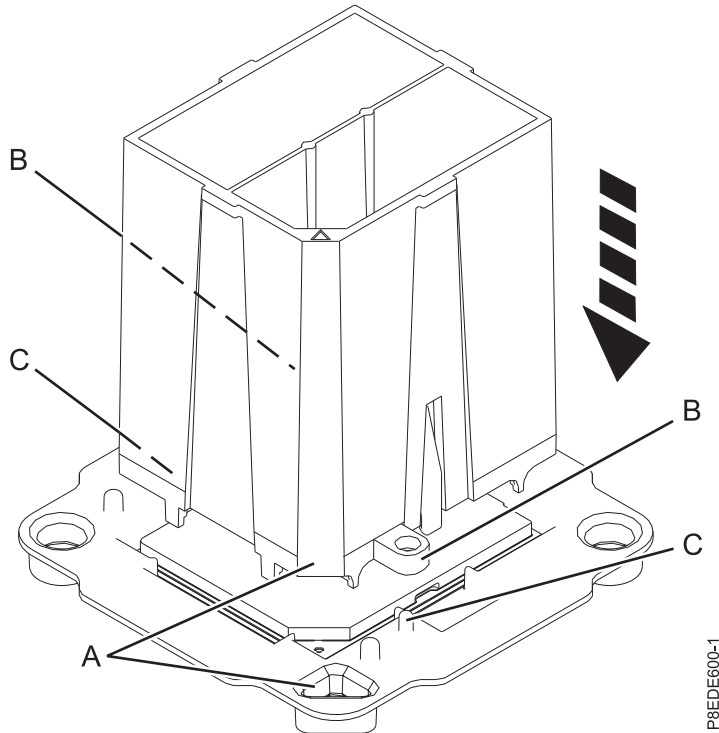

Figure 12. Lowering the removal tool onto the system processor module
3. Lower the supplied removal tool onto the system processor module in the shipping tray. The beveled corner (A) of the tool must align with the triangle-shaped hole on the shipping tray. Align the holes (B) of the tool with the pins (C) on the tray. See Figure 12 on page 14.